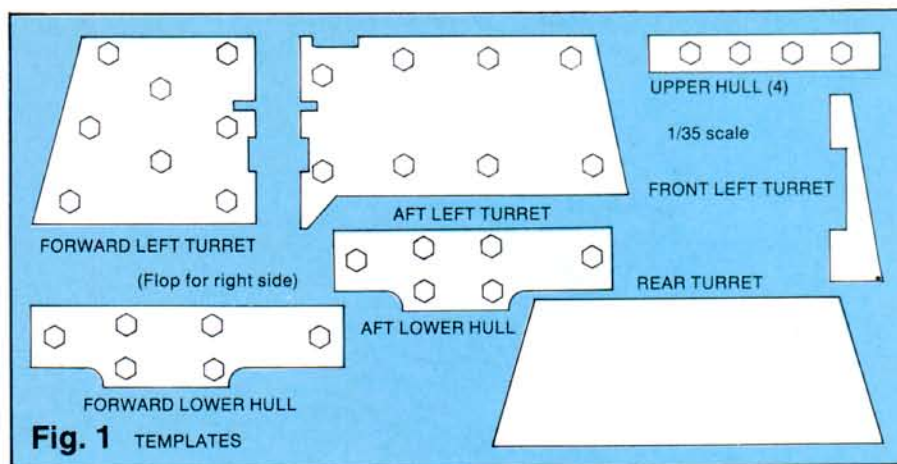

Fig. 1 TEMPLATES
**Kit modifications.** The early KV turret was a simple welded structure. The roof was horizontal while the front, rear, and sides were all flat armor plates, angled 15 degrees from vertical and welded together. Converting the kit turret to the earlier welded version with the appliqué armor requires the most work. Start by transferring the full-size templates of the turret plates, Fig. 1, to .040" sheet styrene, then cut out the parts with a straightedge and a sharp knife.